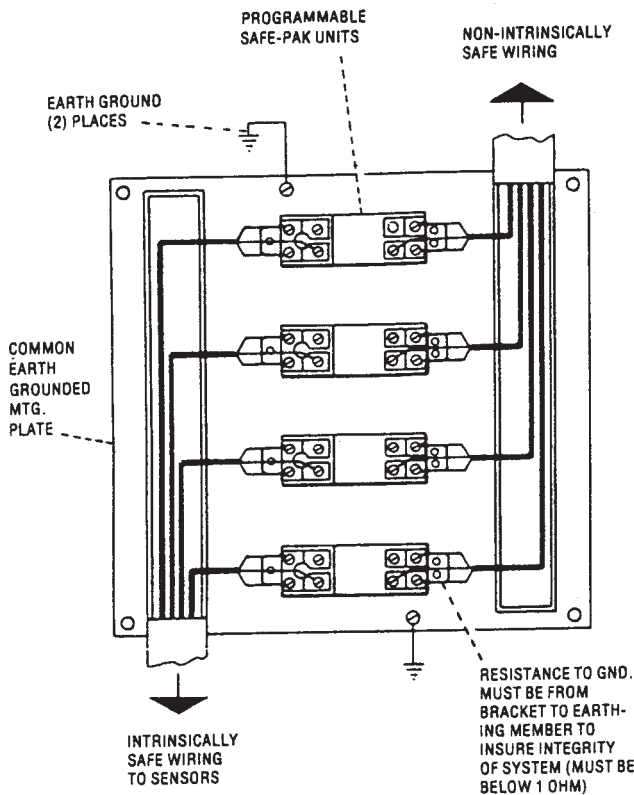

FIG. 4. Multiple SAFE-PAK units grouped on common, earth-grounded mounting plate.
- A. Field wiring of Intrinsically safe circuits is to be segregated from non-intrinsically safe wiring by use of suitable barriers, separate wireways or trays. (See Fig. 4.)